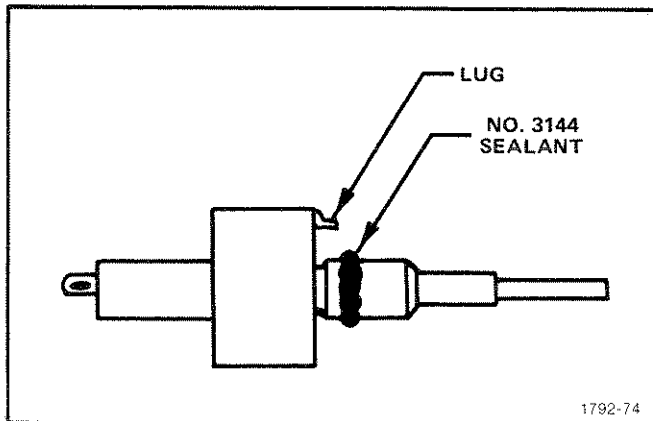

Fig. 5-21. Application of sealant to ZERO REFERENCE control bushing.
**20. Install the ZERO REFERENCE control in the Front Panel (see Figs. 5-21 and 5-22)**
1. Form a bead of No. 3144 sealant around the threads of the bushing as shown in Fig. 5-21.